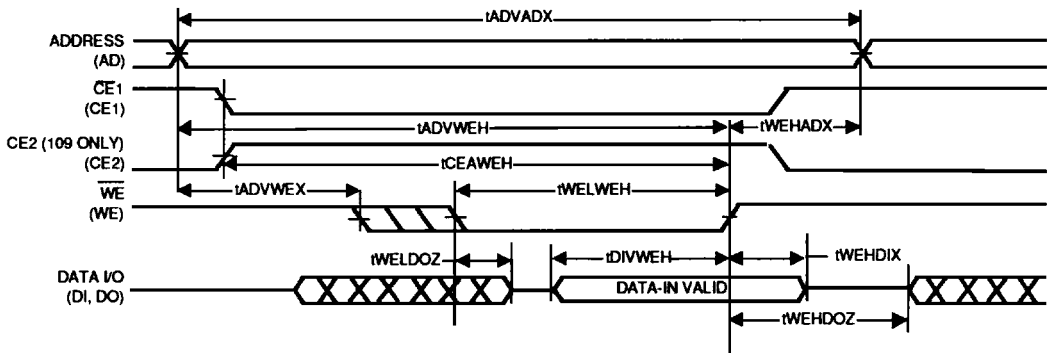

Figure 6. Write Cycle —  $\overline{WE}$  Controlled (  $\overline{OE}$  Low During Write)
**Table 6. Write Cycle** 1, 2, 3, 4, 5, 8 (See Figures 6 and 7.)